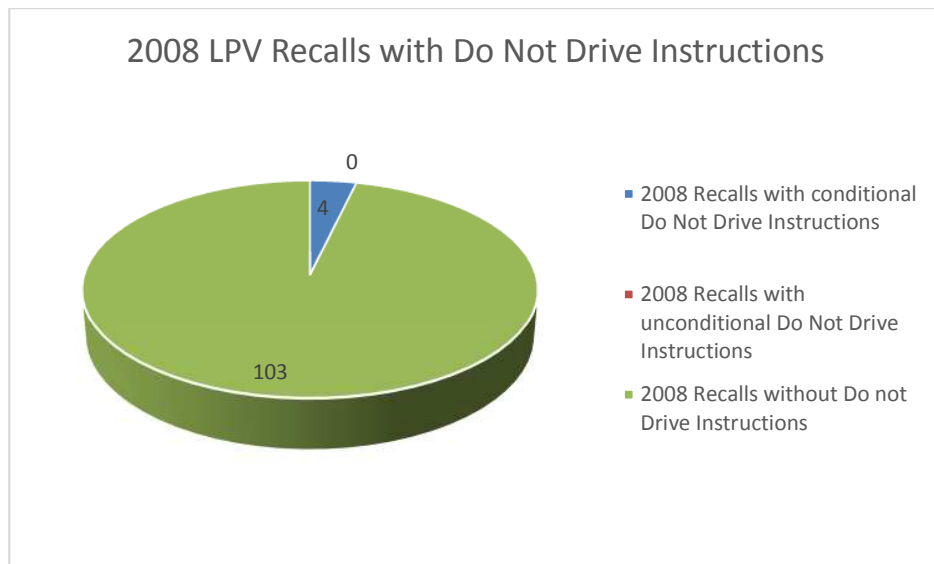

Figure 6. 2008 LPV Recalls with Do Not Drive Instructions
Four (4) of the one hundred thirty five (107) 2008 LPV recalls contained DND instructions. All of those DND instructions were conditional upon owner detection of a defect. No recalls had an unconditional “do not drive” vehicle recommendation. Figure 6 shows the number of 2008 LPV recalls that had DND instructions. For the text detailing the DND instructions for the 2008 LPV recalls see Appendix A-6.